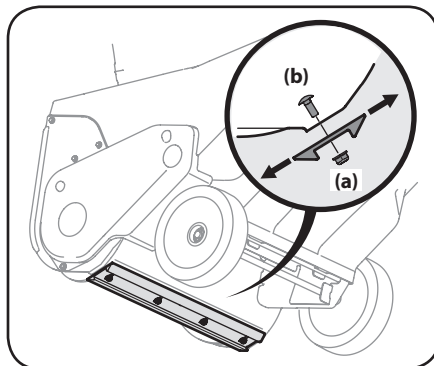

Figure 4-2
3. Loosen the four flange lock nuts (a) and carriage screws (b) which secure the shave plate to the housing. See Figure 4-2. Move the shave plate to the desired position and retighten the flange lock nuts (a) and carriage screws (b) securely.
- Remove the four carriage screws (b) and flange lock nuts (a) which attach it to the snow thrower housing. See Figure 4-2.